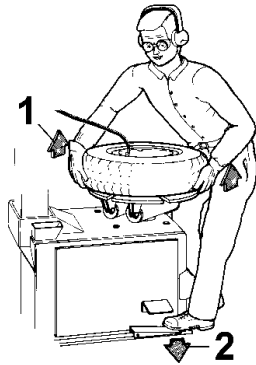

Fig.22
**D.** Lift the tire with both hands (1) so that the upper bead is sealed to the rim edge (Fig.22).